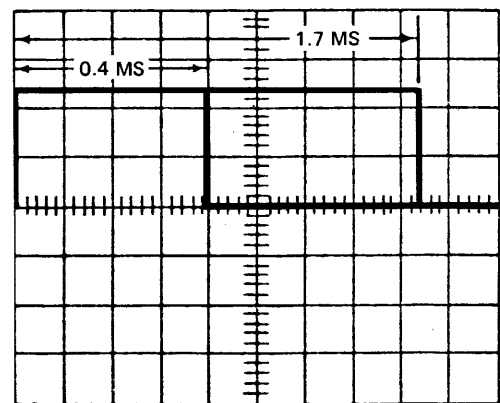

Figure 1-9. Index Pulse Duration
- f. Set oscilloscope as follows to monitor INDEX pulse duration, as shown in Figure 1-9.
- g. Observe INDEX pulse duration of 1.7 milliseconds, as shown in Figure 1-9.
- j. Perform this check in same manner for a disk drive configured for Hard Sector option, except use a floppy disk with index and sector holes. Step e. should also check for a 0.4 ± 0.2 millisecond pulse width as shown in Figure 1-9 at IC location IC13 on the PCB.